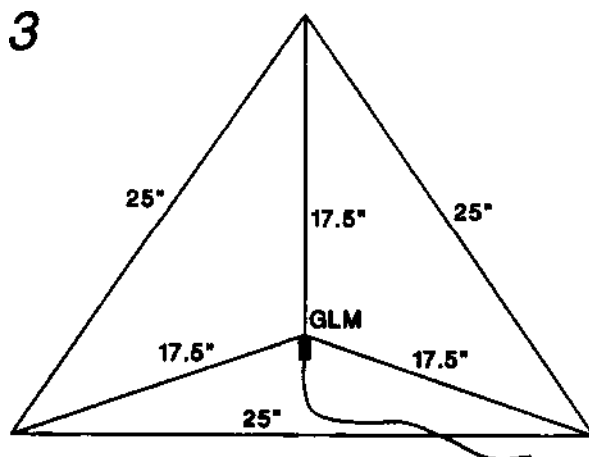

Fig. 3. PZM pyramid.
1. First, make a four-sided pyramid using 3/16" plexiglass as shown in Fig. 3. Seal the edges with silicone rubber.